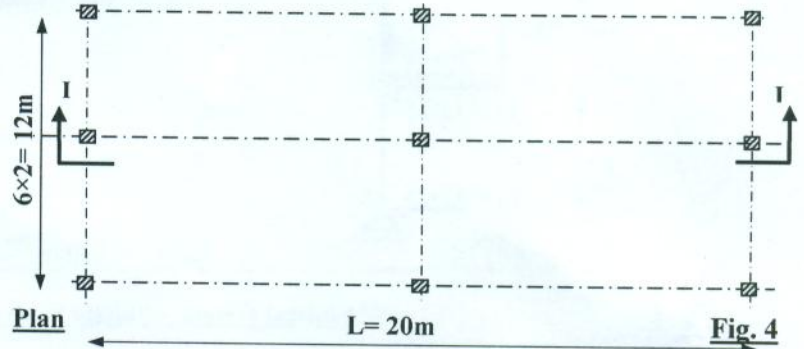

Fig. 4
I. Fig. 4 shows a saw-tooth roof structures. The columns shown in figure are only allowed. A uniform stresses under a footings is required. It is required to carry out the following: